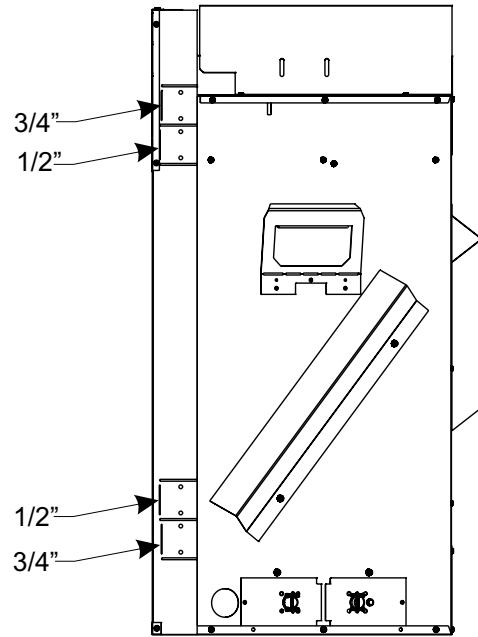

Figure 14
6. Measure from face of fireplace to face of drywall strip to determine final depth and adjust nailing flanges as shown in **Figure 14**.